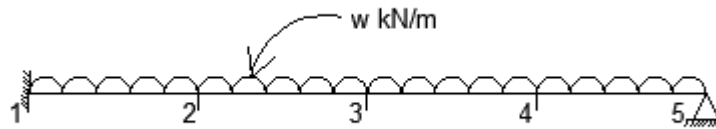

Fig. 1
8. A propped cantilever AB fixed at A and propped at B is of length L and has constant flexural rigidity EI . The cantilever supports a udl of $w \text{ kN/m}$ over the whole length as shown in Fig. 1. Using 4 subintervals, estimate the deflection at pivotal points using 4th order differential equations.